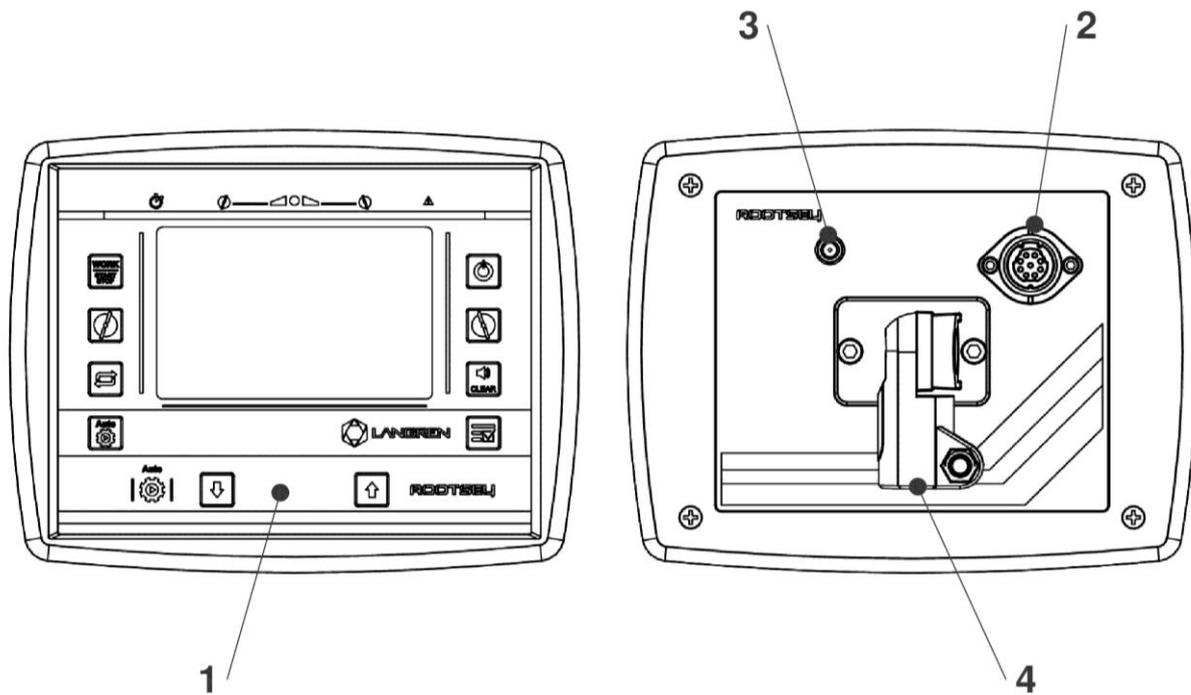

Figure 2.1 EAGLE GP-240-FORCE-R controller.
- Connect the communication cable to connection **2** (fig.2.1).